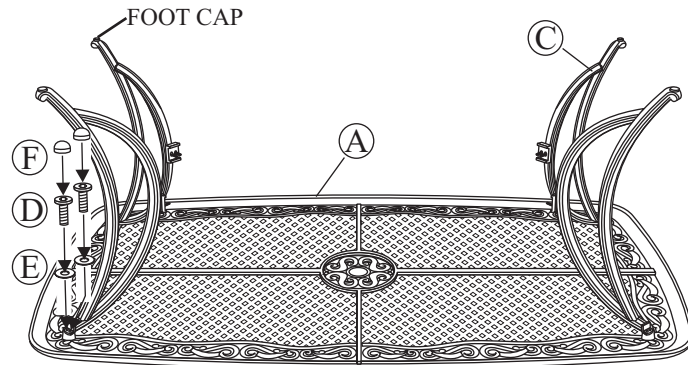

Fig.1
Step 3: Important: We recommend 2 people work together to assemble the chair. Note the arrow labels on the "U" bar and the rocker assembly. Also note the horseshoe shape of the rocker plate. Point the open end of the horseshoe away from you. The arrows on the rocker assembly should be pointing towards you. Set the chair frame on the rocker assembly with front of the seat facing you and the arrows on the "U" bar pointing towards you as shown in *Figure 1*. This is very important for a safe, balanced rocking motion. **If chair frame has been properly positioned on the rocker assembly, all arrows on the "U" bar and rocker assembly will be pointing in the same direction.**
Step 4: Critical Step: The "U" metal plates must be installed in the proper location. Read this step and carefully examine. Insert the "U" metal plate, so that the "U" bar and rocker plate are between both sides of the "U" metal plate. Make sure that the holes in the "U" metal plate are completely aligned with the holes in the "U" bar as shown in *Figure 1*. Guide the bolts through the holes on the top side of the "U" metal plate, through the holes in the "U" bar portion of the chair, through the holes in the rocker plate and then, most importantly, through the holes in the bottom side of the "U" metal plate. It is very important that the holes in the bottom portion of the "U" metal plate be placed directly beneath the holes in the rocker plate. Add a spring washer and a nut to each bolt as shown in *Figure 2*. **Hand tighten nuts 3-4 revolutions only.** Repeat the same procedure on the other side.
- 1 Place the table top upside down on a flat, non-abrasive surface. Attach a table leg to the table top by using the bolts and washers as shown in Fig.1. Guide bolts through holes in the table legs and into the pre-drilled holes in the table top. **Hand tighten 2-3 turns only.** Repeat for the other three legs.